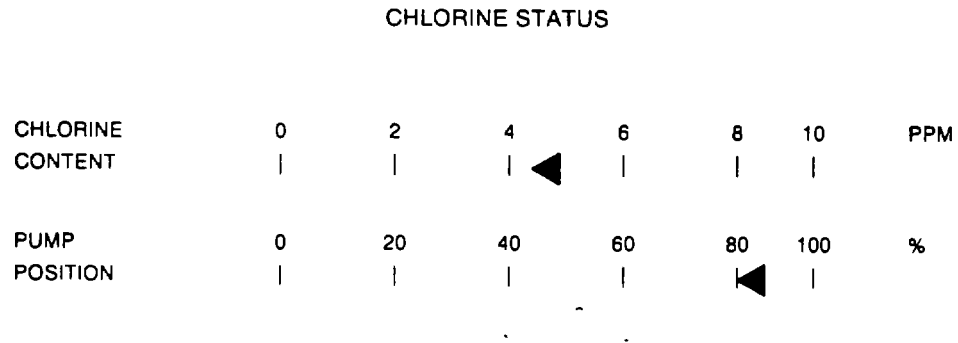

Figure 3-11. Chlorine Status Display Page
- a. Select EDIT MENU option 1 to activate/deactivate sensors by pushing keyboard key 1. Following prompt appears on screen **SELECT PAGE TO EDIT BY PRESSING CORRESPONDING KEY OR PRESS EDIT KEY TO RETURN TO THE MENU NOTE** If display page that shows a bargraph is pressed, highlighted Instructions called "prompts" show in the right corner or across top of video monitor and cursor highlights top bargraph. If a display page without a bargraph is selected, page will flash and monitor returns to menu shown above. Push either another display page key or EDIT key.
- b. Push key of display page that shows a bargraph, such as **POTABLE WATER TANKS** (Figure 3-5) or **CHLORINE STATUS** (Figure 3-11). Make sure selected display page shows on video monitor.